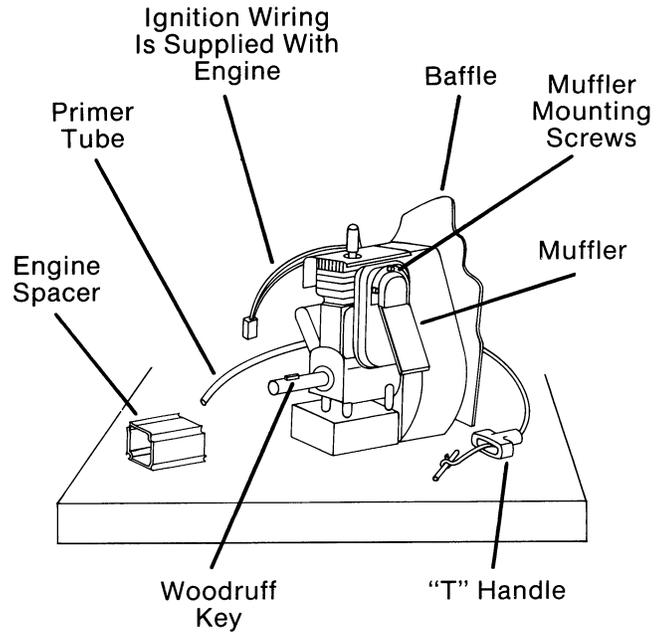

FIG. 15
NOTE: If engine is being replaced; detach the following items (Fig. 15) from engine (a new engine will not be supplied with these items):
- E. Bend back cover panel back far enough to gain access to the three muffler mounting screws. (Fig. 15)